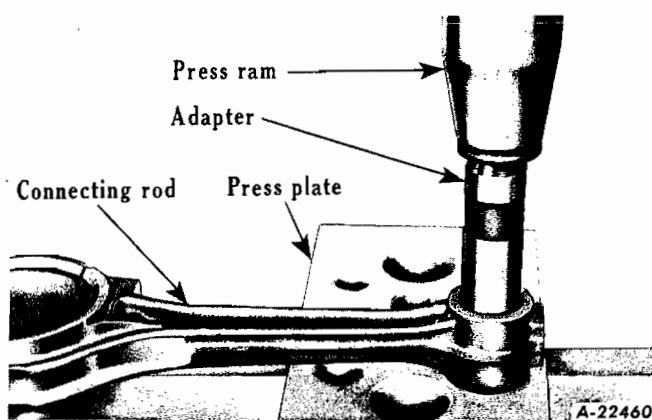
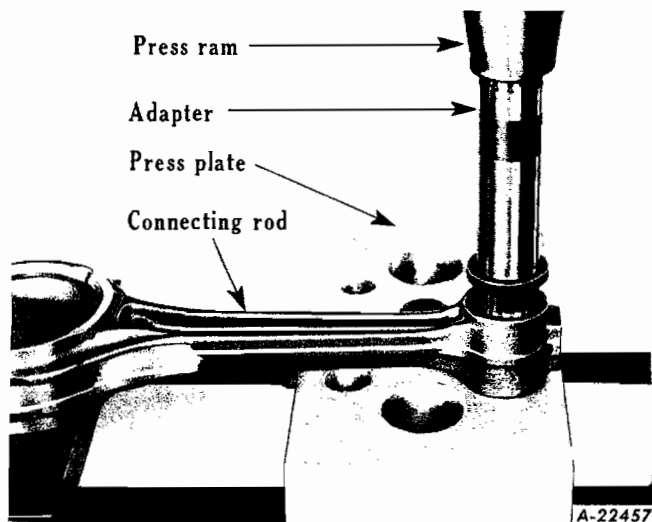
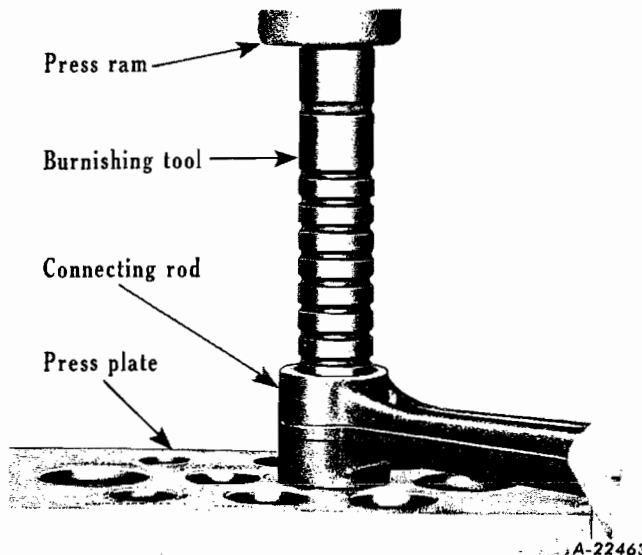

Fig. 35 - Use SE-1036-6 to remove bushing. Select proper hole in SE-1033 Support Plate.
Fig. 36 - Installing new bushing in rod.
Fig. 37 - Burnish Bushing using SE-789.
7. With properly fitting adapter (Fig. 35), press old piston-pin bushing from connecting rod. Place new piston-pin bushing in position, align oil hole in bushing with oil hole in connecting rod, (Fig. 36), install bushing with a .0035" to .0055" press fit. Burnish bushing into place in the connecting rod (Fig. 37), then ream pin bushing to provide a hand-push fit.
(Fig. 35). Apply a tension pull on scale to the feeler ribbon and check clearance to specifications as outlined in the chart below.
1. With piston heated to approximately 200° F., support connecting rod in vise, push piston pin into piston bosses while piston is hot (Fig. 36). When assembling piston on rod, the slot in the piston skirt must be toward the camshaft side of the engine, which is the numbered side of the connecting rod. Install piston pin retainer in piston at each